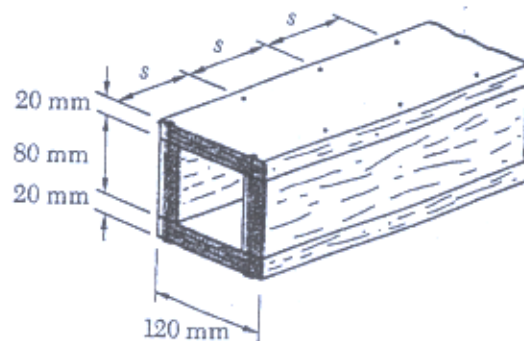

Fig. 2
2. A square box beams made of two 20×80 -mm planks and two 20×120 -mm planks nailed together is shown in Fig. 2. Knowing that the space between nails is $s = 50$ mm and that the allowable shearing force in each nail is 300 N, determine (a) the largest allowable vertical shear each type of beam, (b) the corresponding maximum shearing stress in each type of beam. (13%, 12%)